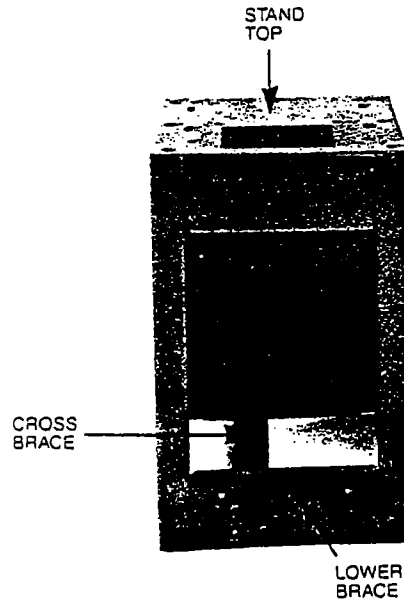

FIGURE 4
5. Set stand upright. (Figure 4).
8. Assemble cross brace to lower braces and rear panel (Figure 4) with carriage bolts at center holes.